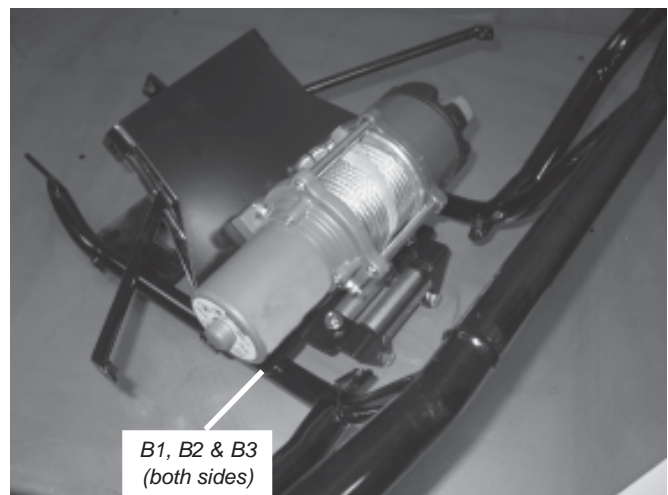

Figure 9 Place Winch, Mounting Plate and Roller Fairlead Assembly onto Front Bumper
- Place the winch, mounting plate and roller fairlead assembly into position on the front bumper, figure 9. Install two 1/4-20 x 1" x 1 3/16" U-bolts (B1), four 1/4" lock washers (B2) and four 1/4-20 nuts (B3) that were supplied in the mounting kit, figure 9. Do not tighten fasteners at this time.